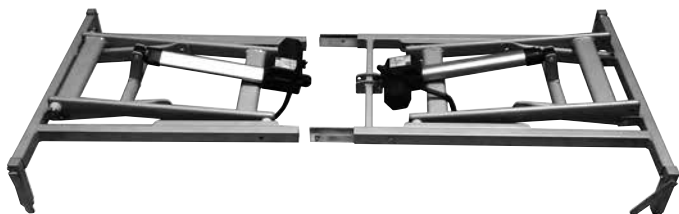

Fig. 1
2. Put up both parts of the base frame. (Fig. 1).